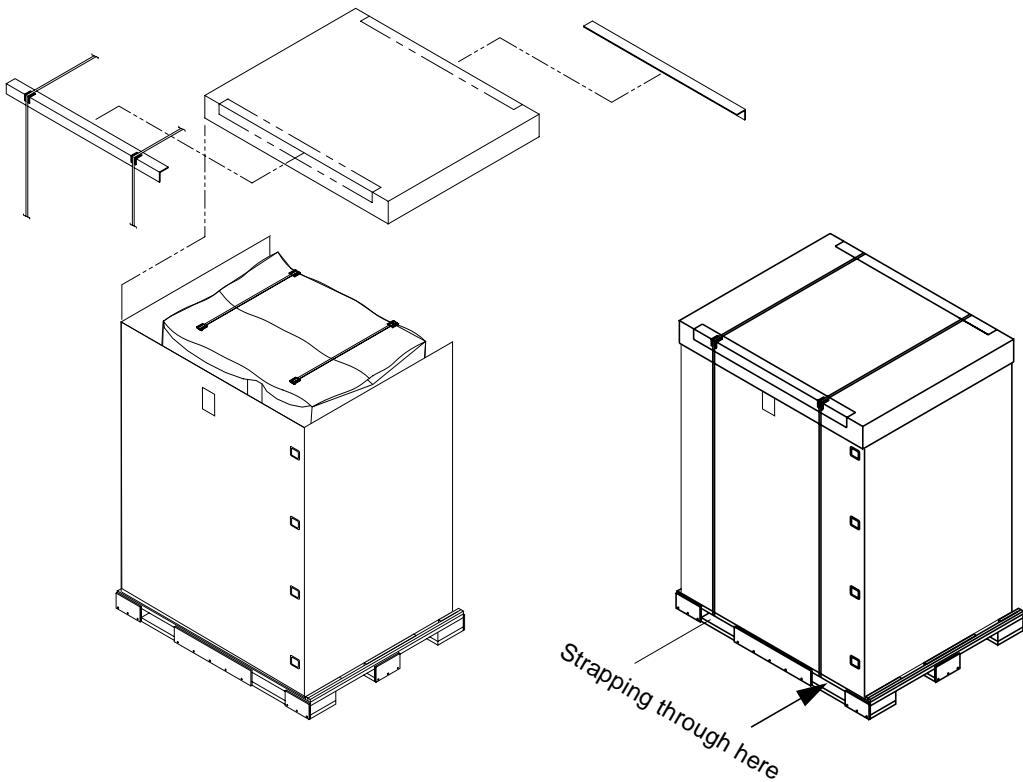

FIGURE 5-22 Securing the Top Cover
20. Install and secure the top cover (FIGURE 5-22).